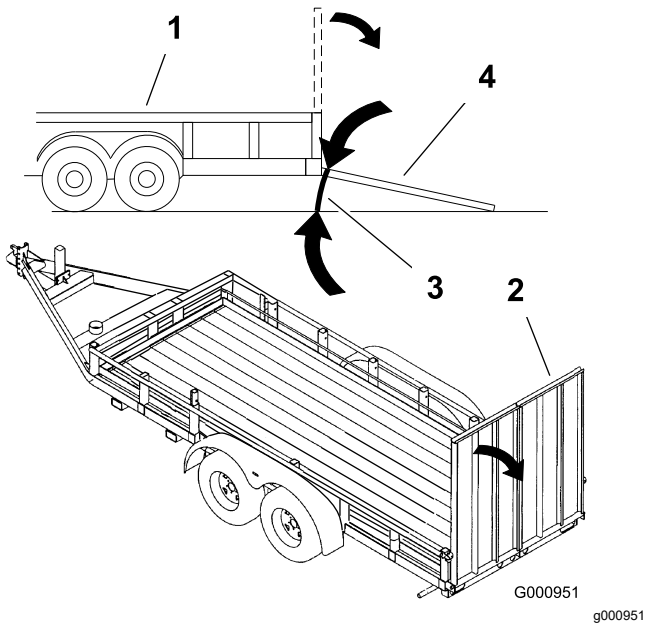

Figure 29
- Use 1 full-width ramp that is wide enough to extend beyond the rear tires instead of individual ramps for each side of the machine (Figure 29). The platform, when down and locked into position, must extend back between the rear wheels and serves as a stop for tipping backward. Having a full-width ramp provides a surface for the platform to contact if the machine starts to tip backward. With the platform up, a full-width ramp provides a surface to walk on behind the machine.
- The ramp should be long enough so that the angles do not exceed 15 degrees (Figure 29). A steeper angle may cause tine components to get caught, as the machine moves from ramp to trailer or truck. A steeper angle may also cause the machine to tip backward. If loading on or near a slope, position the trailer or truck so it is on the down side of the slope and the ramp extends up the slope. This minimizes the ramp angle. The trailer or truck should be as level as possible.